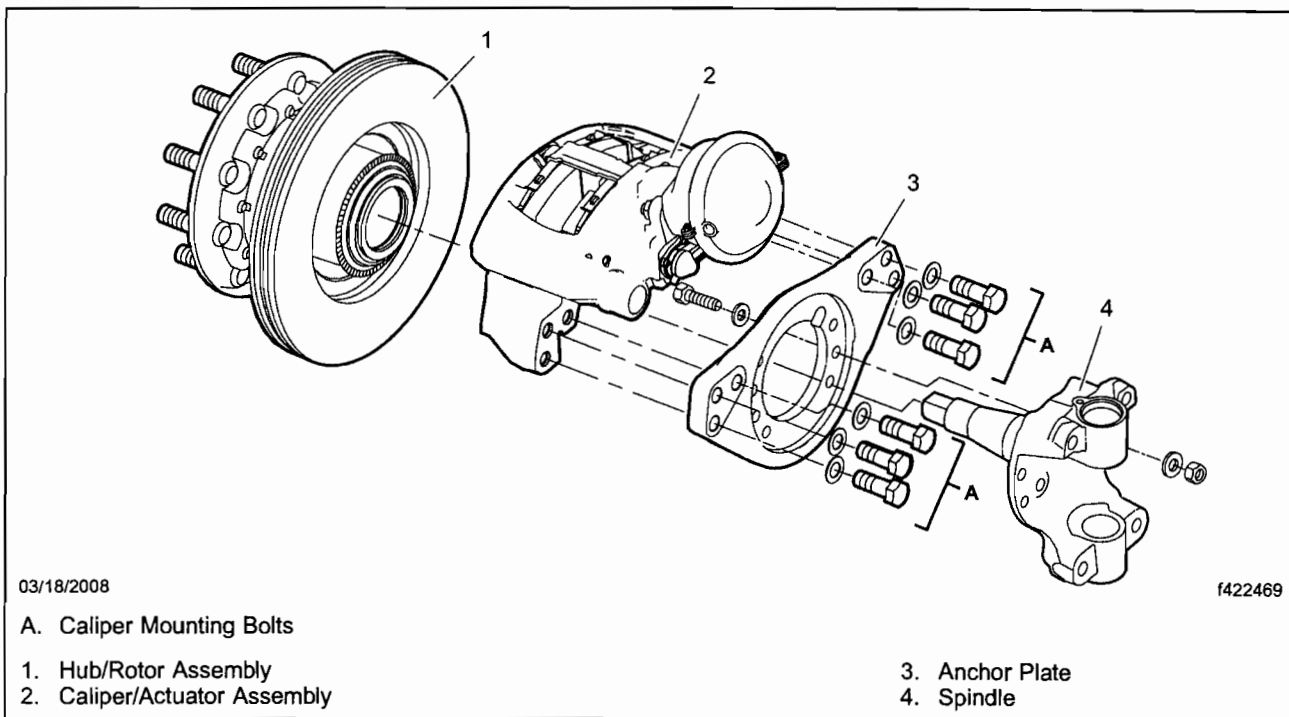

Fig. 2, Steer Axle Components
3. Remove one caliper mounting bolt (leaving the others in place) and discard it. See Fig. 2, Ref. A.